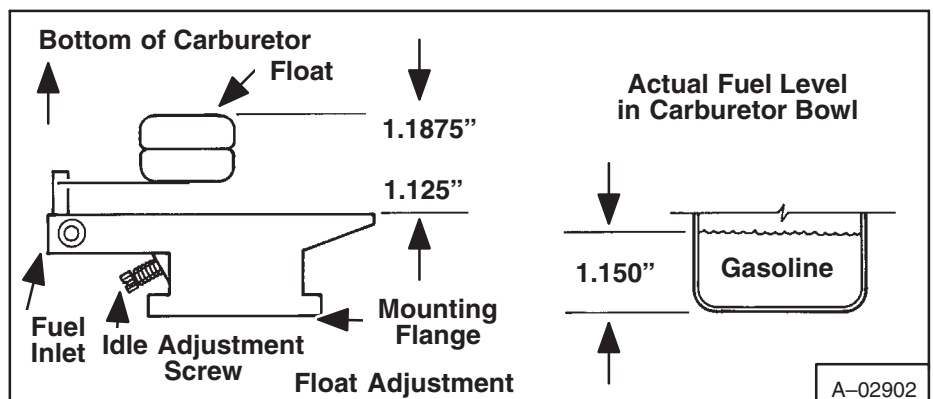

Fig. 7B-15a Float Level Adjustment
3. The pushrod must be in the valve lifter socket. Install a dial indicator so the ball socket adapter of the indicator is on the end of the pushrod and is vertical with the pushrod movement (Fig. 7B-16).